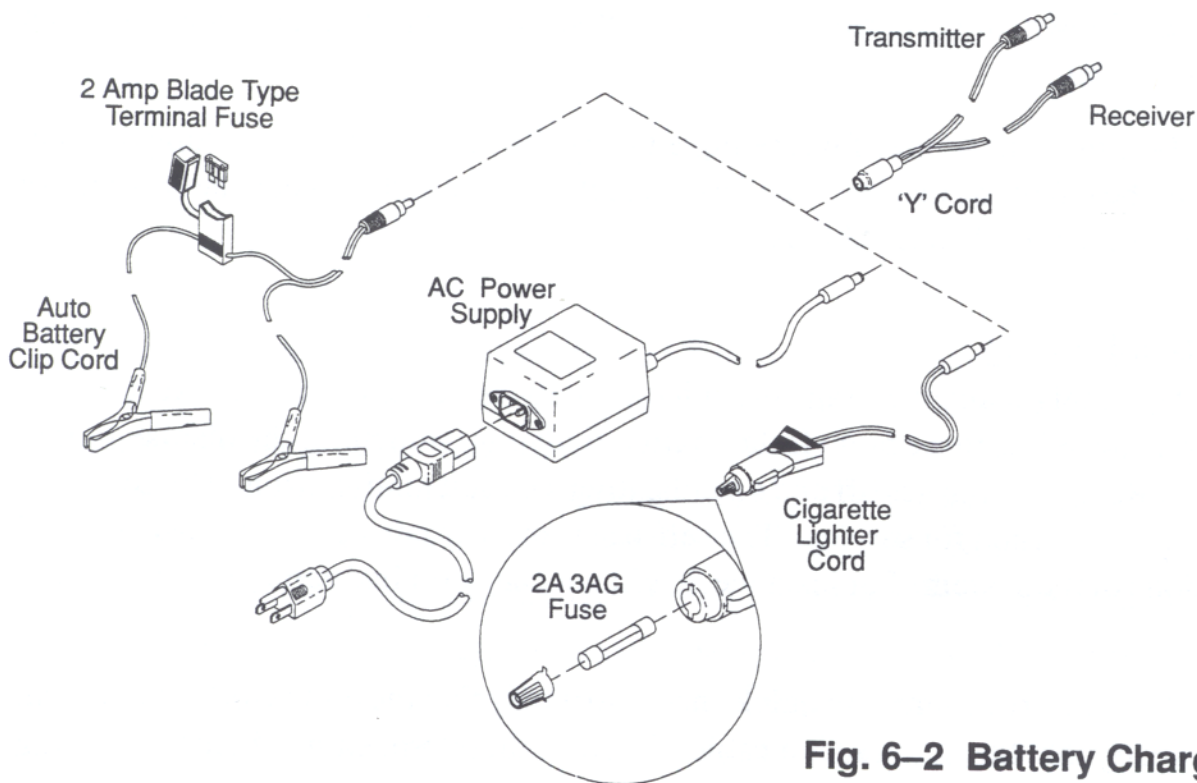

Fig. 6-2 Battery Charger
1.7 The Ni-Cd batteries may be charged using either the AC power supply or the 12-volt vehicle adapters (cigarette lighter cord or auto battery clip cord). The 'Y' cord is used for charging the Transmitter and the Receiver simultaneously. Refer to Fig. 6-2. All these devices are available as an optional accessory. The automobile adapters are fused with 2-amp fuses.